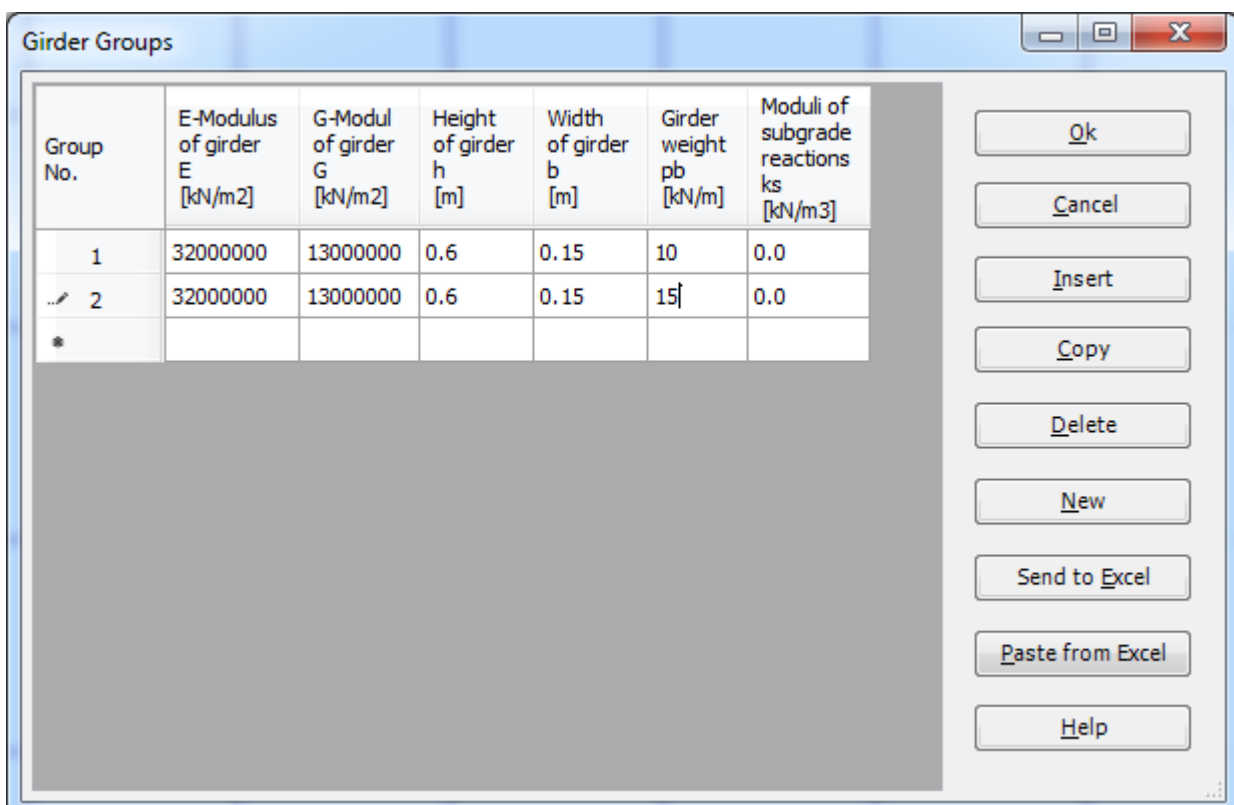

Figure 4.13 "Defining girder groups" list box
After clicking "OK" button in the "Cross section definition" option box the following list box in Figure 4.13 appears. In this list box
- Enter the material properties of the girder, cross section dimensions and the girder weight as indicated in Figure 4.13. This is done by entering the value in the corresponding cell and press "Enter" key. For simplicity, the line loads, which include the own weight of the girder, are entered in the cell "Girder weight". Here two groups of girders are defined, the first group for girders that have a line load of 10 [kN/m], while the second group for girders that have a line load of 15 [kN/m]